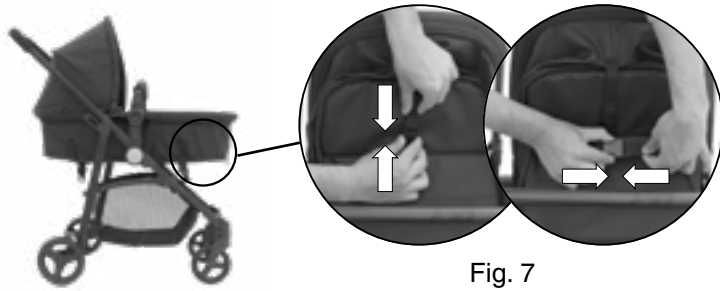

Fig. 7
- If in **bassinet mode** make sure to unbuckle straps before continuing (Fig. 7).